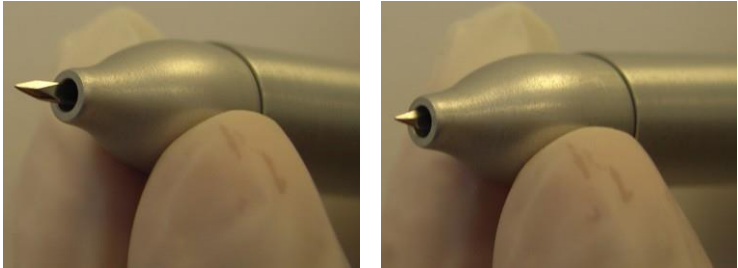

Figure 3-75. Adjusting the Length of the Incision Blade
9. Use the adjuster at the head of the handpiece to adjust the length of the incision blade, as shown in Figure 3-75.